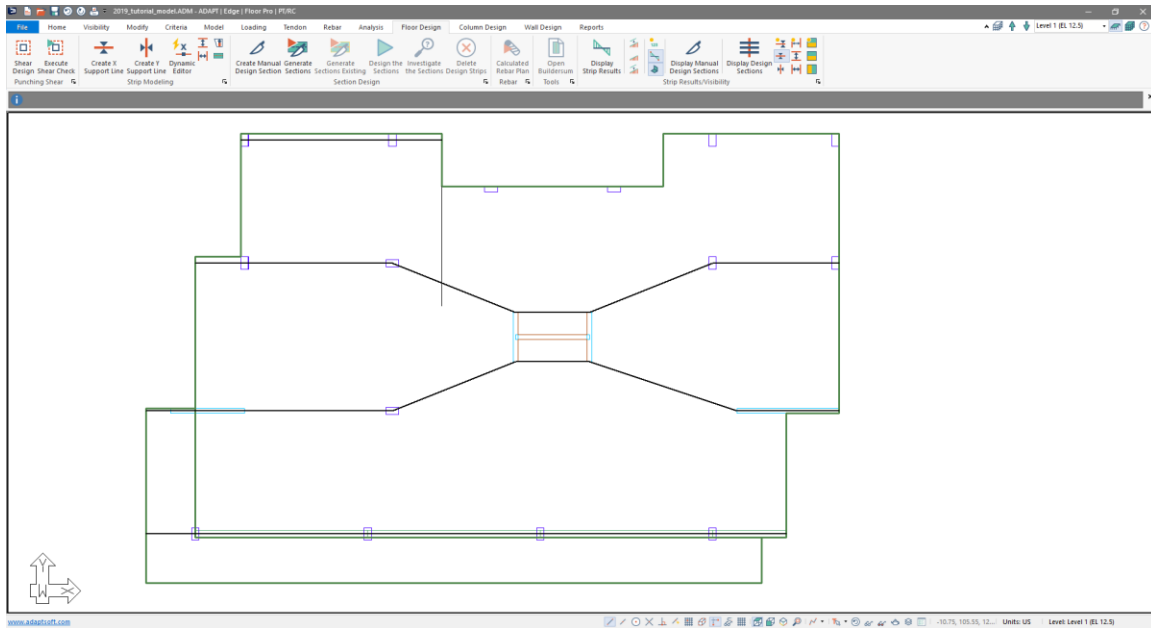

Figure 9-15
- Click on the **ESC** key on your keyboard to exit out of the *Create a Line* tool completely. The user should now have a construction line entered here as shown in **FIGURE 9-15**.